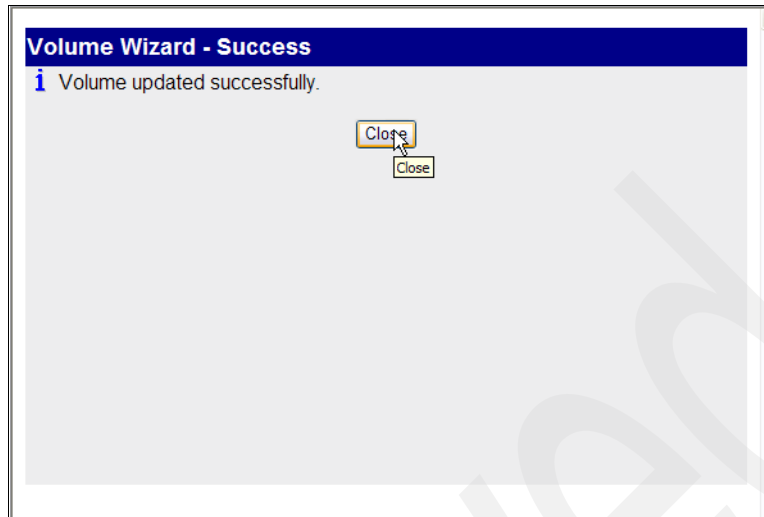

Figure 9-46 Confirmation of the volume creation
9. When you receive a message stating that the Volume updated successfully, as shown in Figure 9-46 on page 344, click **Close** to exit the wizard.